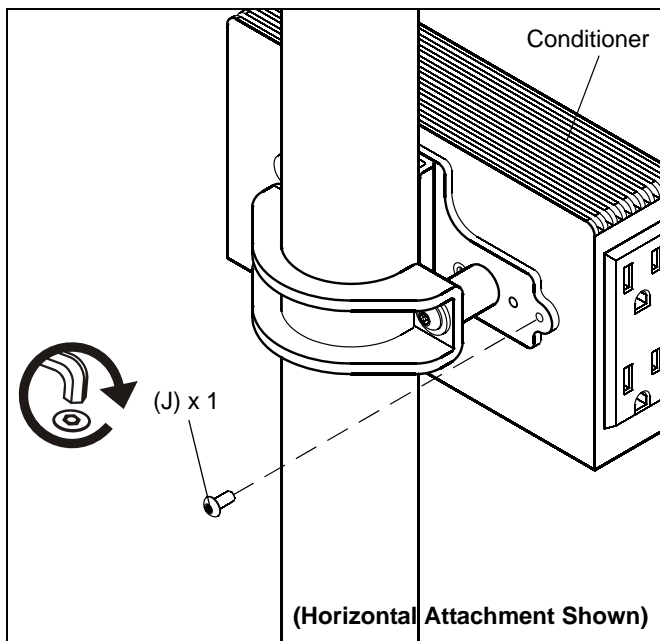

Figure 6
4. OPTIONAL: For additional security, insert and tighten one 8-32 x 3/8" buttonhead security screw (J) through the bracket into the conditioner. (See Figure 6)